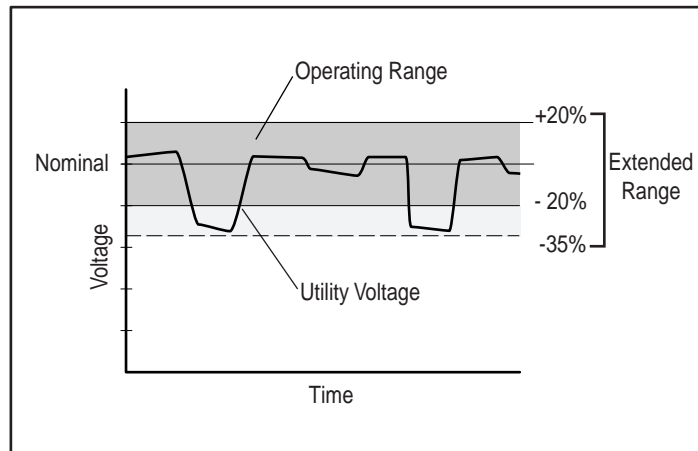

Figure 4-6. Utility voltage fluctuation indicating a possible need for extended range setting
- If the utility voltage frequently varies outside the UPS operating range (see Fig 4-6), consider changing from normal to extended range (+20% to -35%). This provides more tolerance to brief utility voltage fluctuations.